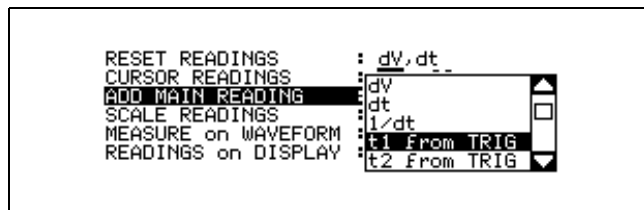

Figure 6-1. Cursor Measurements Window
2. From the second screen page of the More Scope window, highlight ADD MAIN READING. Press **F5** to open the list box. The ADD MAIN READING list box allows you to choose which cursor measurement reading to display. A list of possible measurements is shown in Figure 6-1.